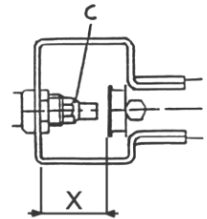

Fig. 2
c) Primary air adjustment (fig. 2)
The provided distance (“X”) for the primary air setting is specified in **fig. 2** and in **table 2**. After the replacement of nozzles check setting of primary air for all burners.